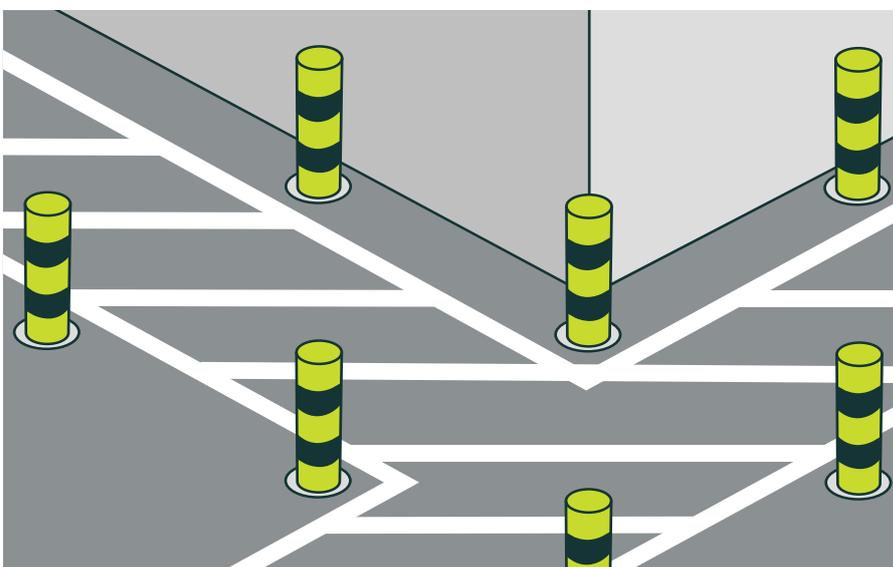

FIGURE 5:
- lines painted on the ground and bollards (see Figure 5)